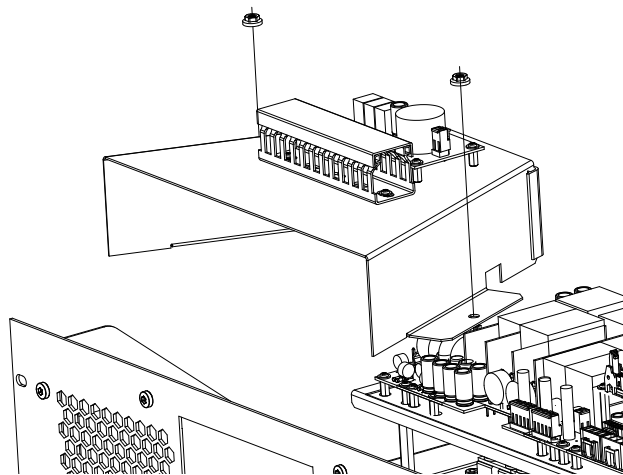

Figure 85: Remove the ventilation nozzle.
5.- Loosen the 2 fixing screws in the ventilation nozzle and remove the nozzle, **Figure 85**